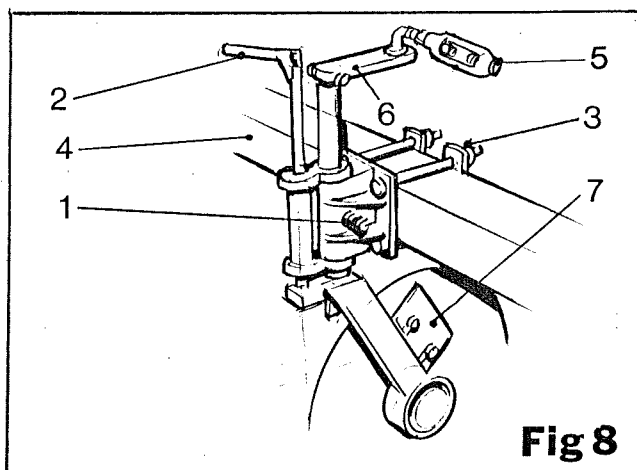

Fig 8
The Statesman is fitted with four 64 cm. disc coulters, one either side of the digger shares. The discs are designed to cut down and part haulm and weed, whilst simultaneously feeding the ridge onto the 1st sieving web. The discs are adjustable for depth of work and for different row settings. To adjust the discs for depth, loosen the locking bolt (item 1, fig 8) and turn the adjusting screw (item 2, fig 8). Once the required position is obtained resecure with the locking bolt if required. The locking bolt is fitted so that, if necessary, the disc coulters can be fixed, to stop them from swivelling. To adjust for different row centres, slacken the four retaining bolts (item 3, fig 8) and slide the complete assembly along the support beam (item 4, fig 8) to the required position. The disc coulters can also be adjusted for different row widths by slackening the four retaining bolts (item 3, fig 8) and removing the adjustable tie bar (item 5, fig 8) from the disc arm (item 6, fig 8). Slide the disc assembly to the required position and tighten the retaining bolts (item 3, fig 8). Finally reassemble the tie bar (item 5, fig 8) with the disc arm. Once assembled ensure the discs are tracked correctly, ensuring they are parallel with each other. The discs are fitted with scrapers (item 7, fig 8), these must be kept as close to the disc as possible to enable efficient operation.